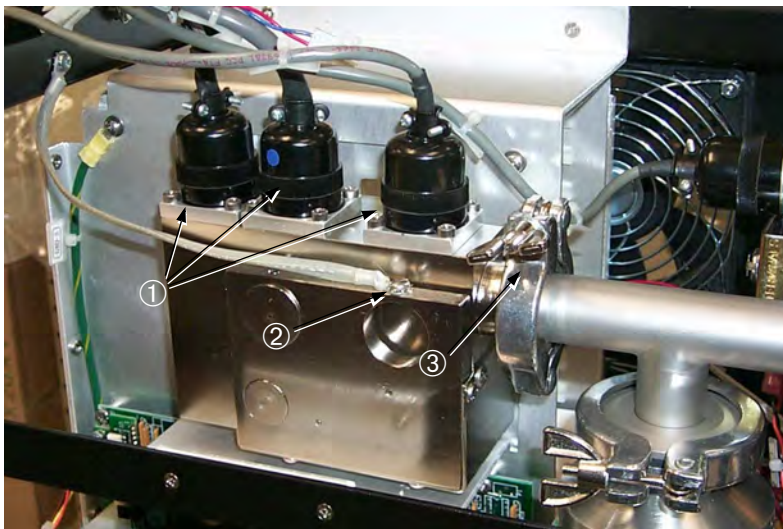

Figure 4-2 Front View of the Spectrometer Tube Assembly
3. The spectrometer tube is located in the center front of the 979 just behind the front panel (Figure 4-2).
In addition to the three connectors on the top of the unit, indicated by ① in Figure 4-2, and the ground cable ②, the spectrometer tube is attached by a KF-25 (ISO NW-25) quick clamp ③ and a wing nut located below the tube (not shown in this view).